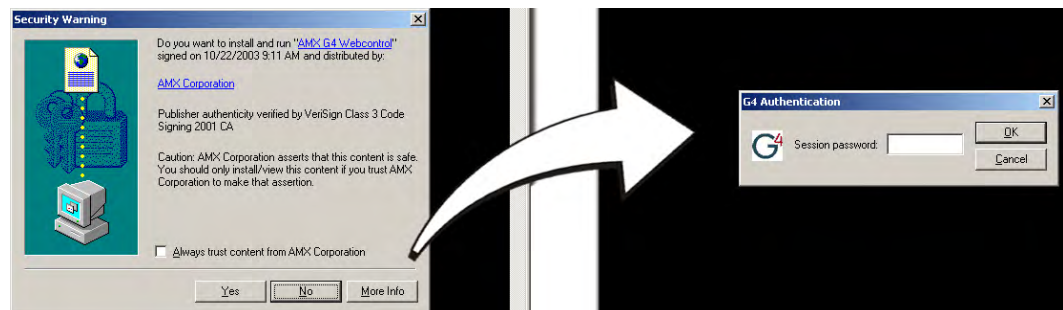

FIG. 95 Web Control VNC installation and G4 Authentication Session Password entry
6. Click **Yes** in the *Security Alert* popup to agree to the installation of the G4 WebControl application on your computer (FIG. 95).
10. Enter the Web Control session password into the Session password field (FIG. 95).